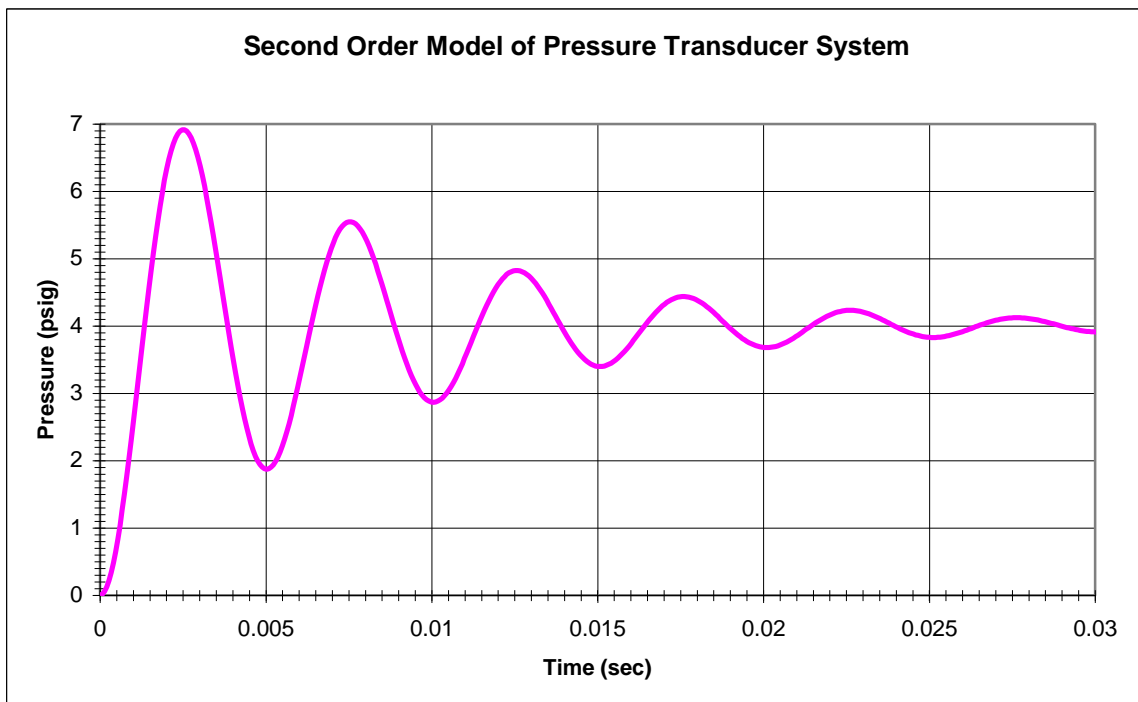

Figure 16. A sample unit step response function of a second order system.
- 93) Figure 16 The damped resonance frequency, ω_d , of the pressure transducer system plotted in Figure 16 is
- 94) The value of the rise time of the pressure transducer system plotted in Figure 16 is approximately 0.0025 seconds.
- 95) The value of the settling time of the pressure transducer system plotted in Figure 16 is greater than 0.3 seconds.